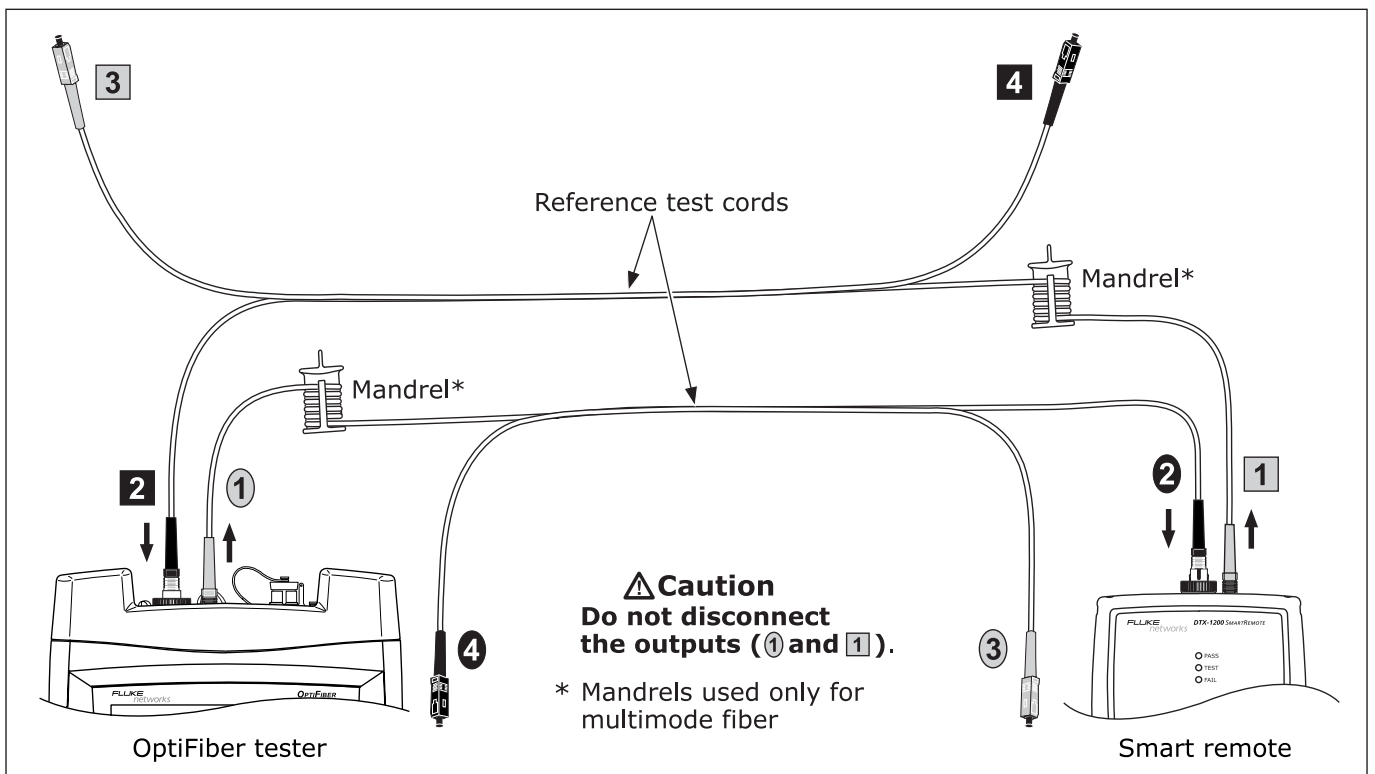

Figure 7-6. Smart Remote Mode Reference Connections (1 Jumper Method)
- At the beginning of each day using the remote end setup (Figures 7-6 through 7-13) you will use that day. The tester reminds you to set the reference if the reference is more than 12 hours old.
as shown in Figures 7-6 through 7-13.
- 6 Make the connections shown on the **SET REFERENCE** screen and in Figure 7-6; then press **ENTER**.